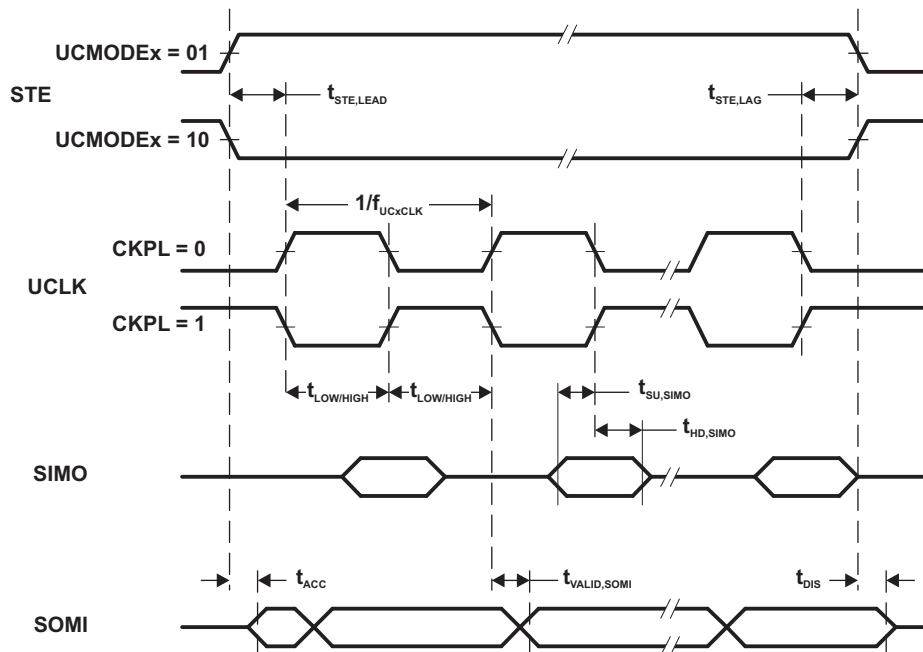
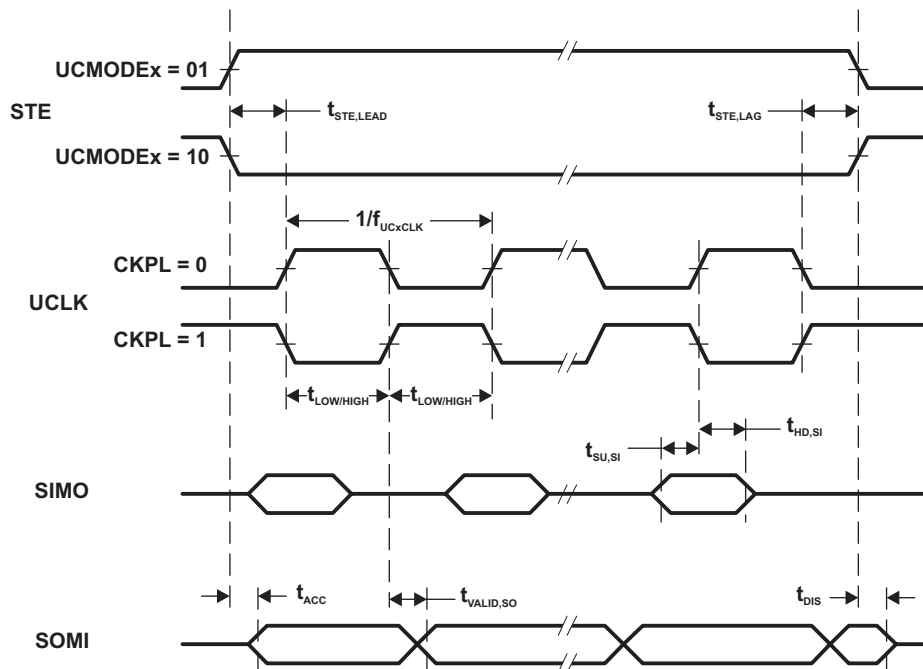

Figure 5-15. SPI Slave Mode, CKPH = 0
Figure 5-16. SPI Slave Mode, CKPH = 1
- (1) f_{UCxCLK} = 1/2t_{LO/HI} with t_{LO/HI} = max(t_{VALID,MO}(eUSCI) + t_{SU,SI}(Slave), t_{SU,MI}(eUSCI) + t_{VALID,SO}(Slave)). For the slave parameters t_{SU,SI}(Slave) and t_{VALID,SO}(Slave) refer to the SPI parameters of the attached slave.
- (2) Specifies the time to drive the next valid data to the SIMO output after the output changing UCLK clock edge. See the timing diagrams in Figure 5-15 and Figure 5-16.
- (3) Specifies how long data on the SIMO output is valid after the output changing UCLK clock edge. Negative values indicate that the data on the SIMO output can become invalid before the output changing clock edge observed on UCLK. See the timing diagrams in Figure 5-15 and Figure 5-16.
- (2) Specifies the time to drive the next valid data to the SOMI output after the output changing UCLK clock edge. Refer to the timing diagrams in Figure 5-15 and Figure 5-16.
- (3) Specifies how long data on the SOMI output is valid after the output changing UCLK clock edge. Refer to the timing diagrams in Figure 5-15 and Figure 5-16.